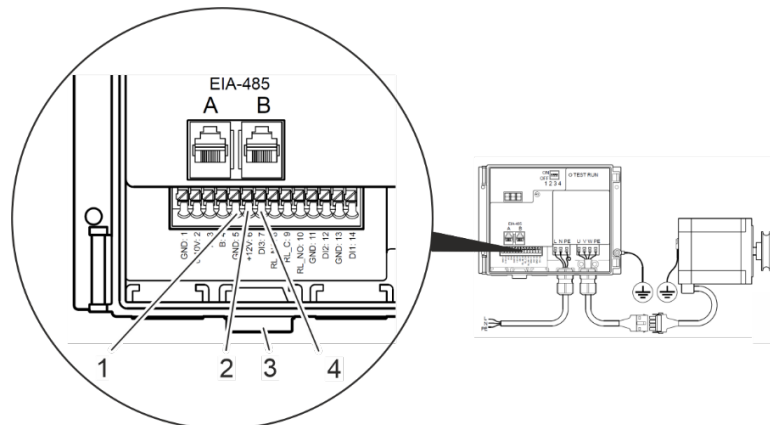
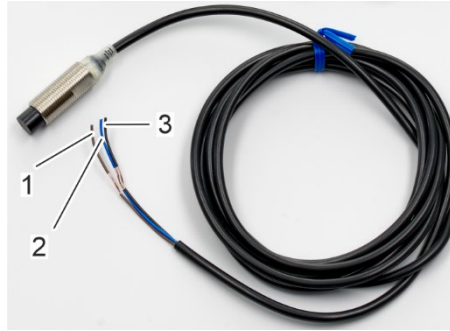

Fig. 102: Terminals clock sensor
Fig. 103: Clock sensor cable
21. Insert the wires of the clock sensor (Fig. 103/1-3) through the cable entry (Fig. 102/3) into the rotor cleaner drive.
22. Connect the blue wire (Fig. 103/2) to terminal 5 (Fig. 102/1, GND).
Connect the brown wire (Fig. 103/1) to terminal 6 (Fig. 102/2, +12V).
Connect the black wire (Fig. 103/3) to terminal 7 (Fig. 102/4, D13).